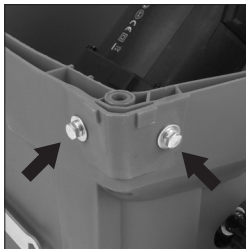

Fig. 3
- Remove the eight Ø10 mm hex headed screws and their associated washers from the corners of the machines main body **(Fig. 3)**.